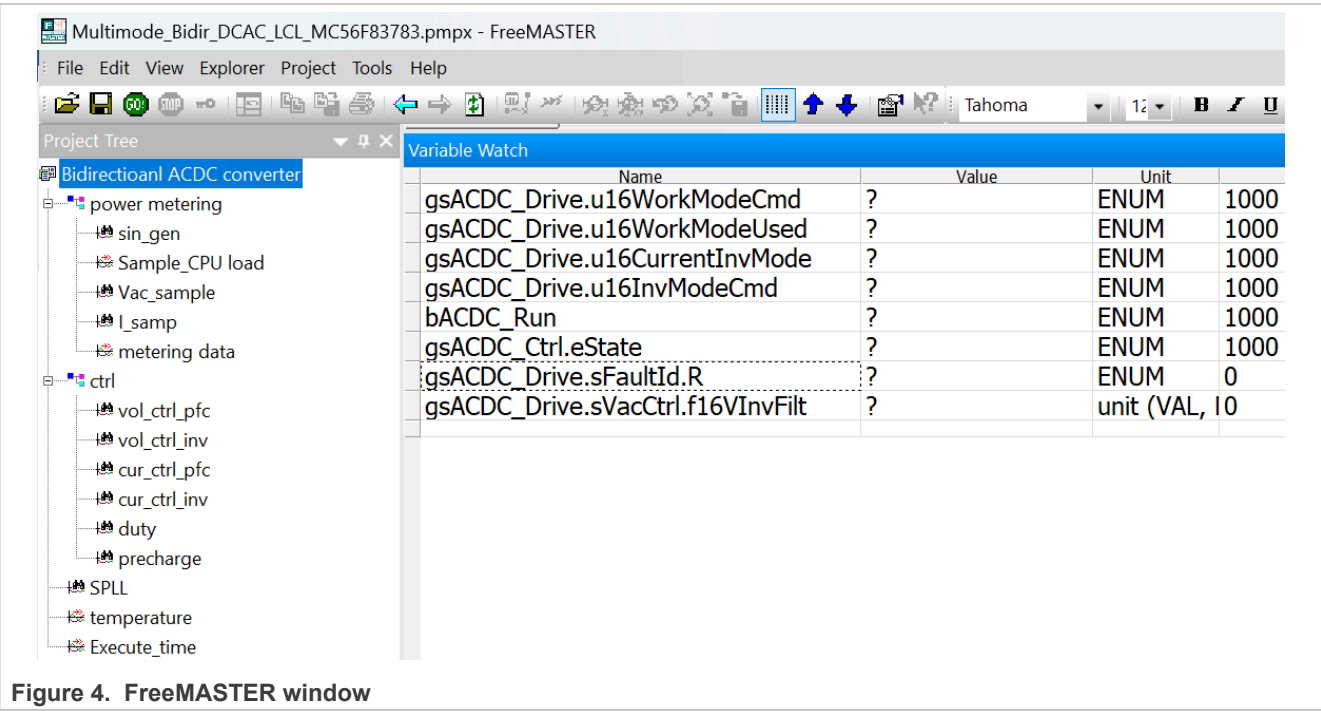

Figure 4. FreeMASTER window
1. Open the FreeMASTER project (Multimode_Bidir_DCAC_LCL_MC56F83783.pmpx) with the latest FreeMASTER. Figure 4 illustrates the FreeMASTER window.